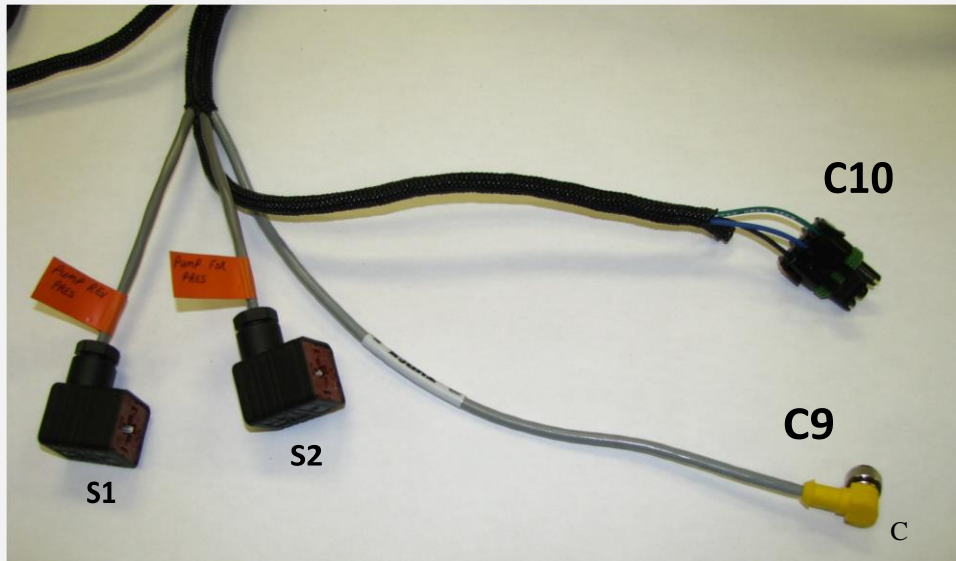

Figure 7.28: Primary Pump Connections
25. Plug connector S1 into pump solenoid S1. “Pump Fwd. Pressure” S1 is the solenoid closest to the primary pump input shaft (Figure 7.28).
26. Plug connector S2 into pump solenoid S2. “Pump S2” or “Pump Rev Pressure” (Figure 7.28).